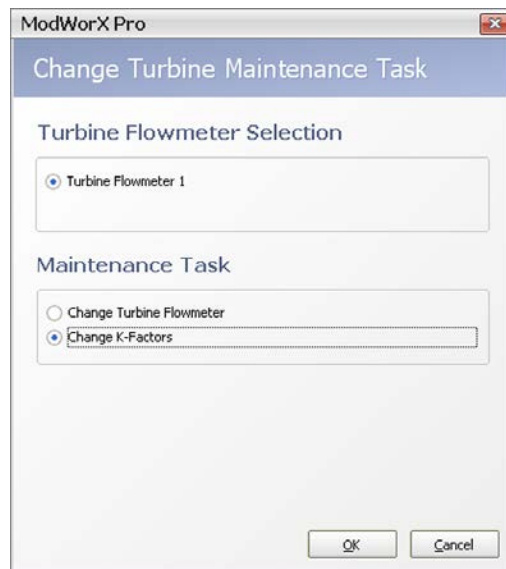

Figure 13.4
1. If Change Turbine Flowmeter is not displayed in the Maintenance Task field at the top of the Maintain Turbine screen, click on ***Change Task***. The Change Turbine Maintenance Task dialog will appear (Figure 13.4).